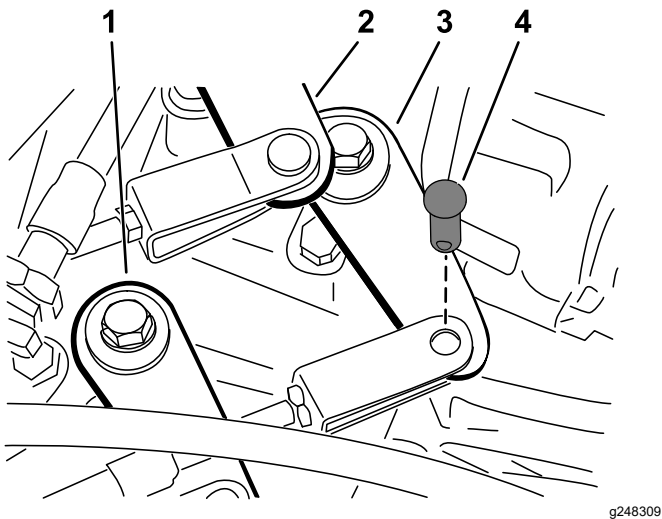

Figure 44
2. Remove the clevis pins securing the shift cables to the transaxle-shift arms (Figure 44).
1. Remove the clevis pin securing the high-low cable to the transaxle (Figure 44).